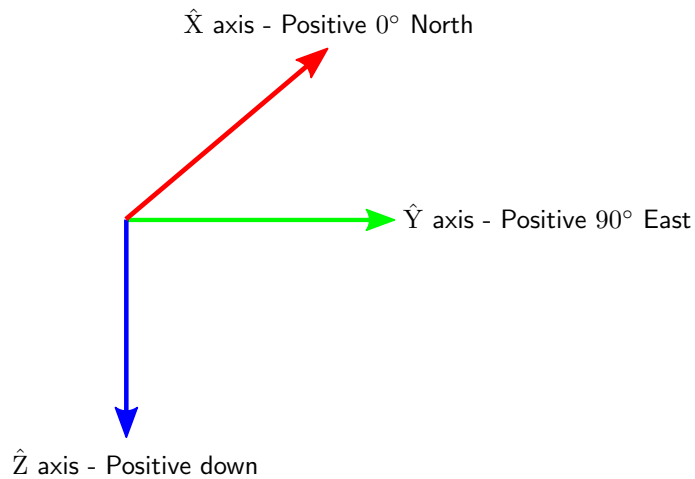

Figure 1: Global coordinate system
- 📖 Most DObjects have a state that evolves through simulation. An initial condition (IC) is required to specify the state at the start of a simulation.
- 📖 The global reference frame is a right hand system and is fixed at the mean sea surface of 0m. The principle axis directions can be seen in Figure 1.